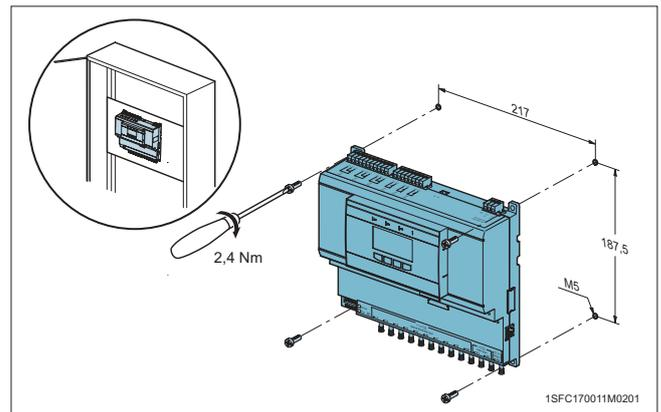

Figure 1
1. Predrill holes in wall to fit screws 5M. See **figure 1** for dimensions.